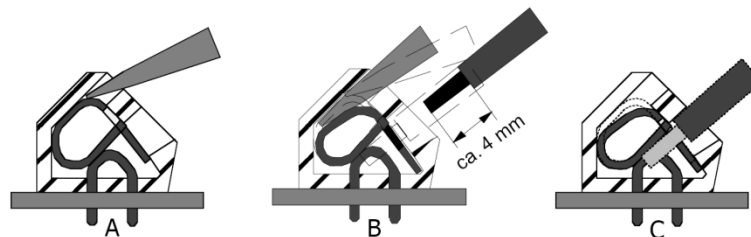

Figure 46. Connection in screwless spring-loaded terminals
- Insert a size 1 screwdriver in the upper opening and insert it turning slightly upwards (figure 46 A).
- Now place the stripped connecting wire in the lower opening and hold it there securely (figure 46 B).
- Withdraw the screwdriver. The connecting wire is then firmly fixed (figure 46 C).
The insulation of the connecting line must extend as far as the terminal indentation, i.e. there must be no further bare part of the connecting line visible above the terminal edge (as shown in figure 46 C). Touching live parts is dangerous to life. The stripped part of the connecting wire should be shortened if necessary.